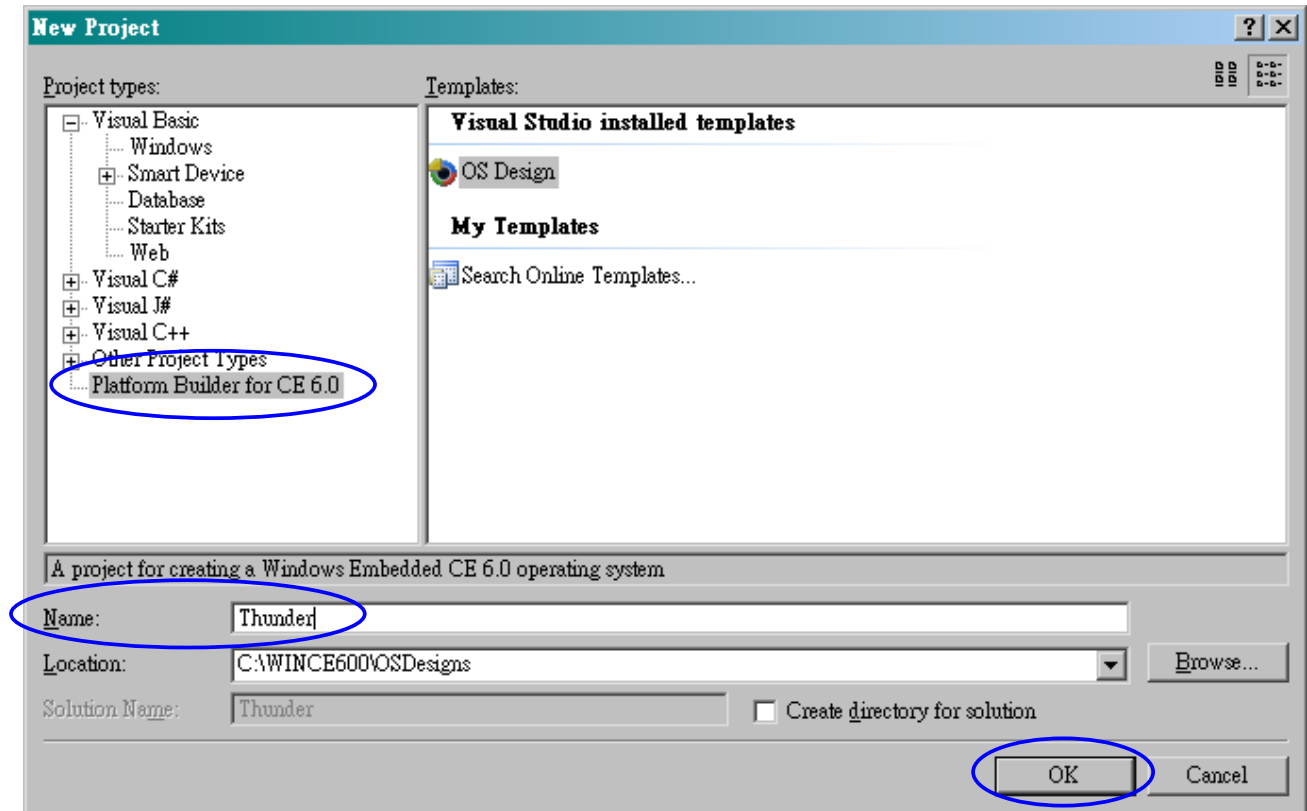

Figure 124
- Chose “Platform Builder for CE 6.0”. Then input project name in the “Name:” box. For example “Thunder”. (See Figure 124)